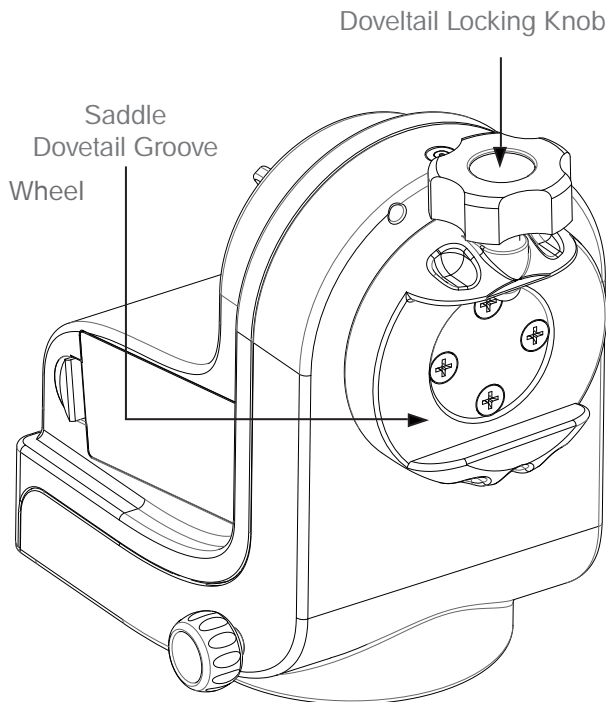

Fig. 1.3b
2. Loosen the dovetail locking knob until nothing is obstructing the dovetail groove in the saddle (Fig 1.3b).
3. Hold the telescope horizontally and slide the dovetail bar of the telescope into the dovetail groove of the saddle (Fig 1.3b).